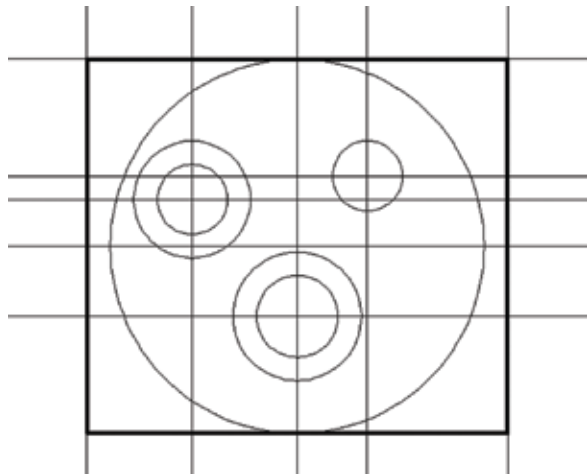

Figure 11.6
- Your drawing should now look like Figure 11.6.